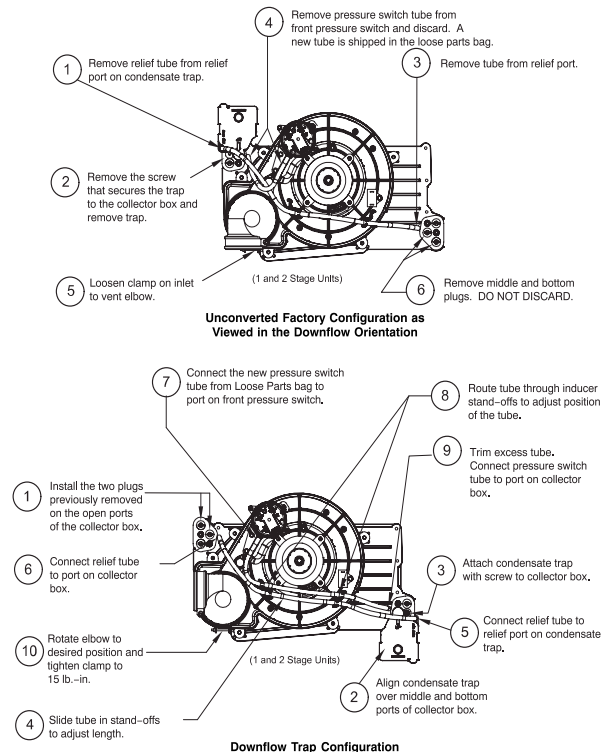

Fig. 9 – Downflow Trap Configuration
as received from the factory. See the top image in Fig. 9. When the furnace is installed in the downflow orientation, the condensate trap must be relocated for proper condensate drainage. See the bottom image in Fig. 9.
- Fig. 9 shows the condensate trap and tubing before and after relocation. Refer to Fig. 9 to begin the trap conversion.